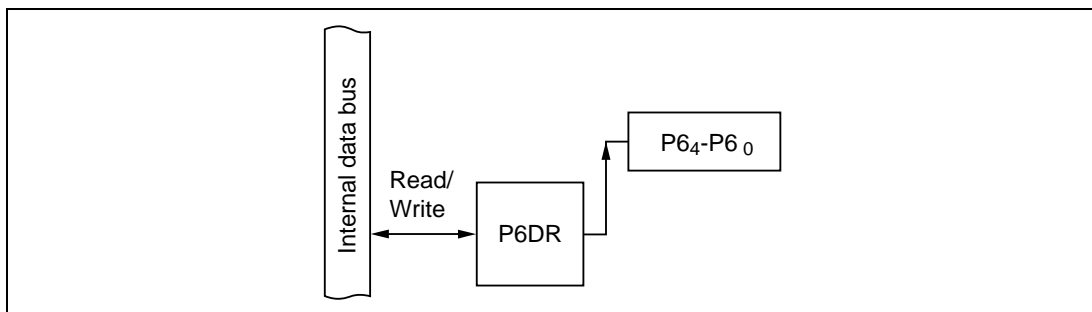

Figure 10-37 Output Port (Modes 1 to 7)
(2) Output Port (Modes 1 to 7): Figure 10-37 shows a block diagram illustrating the general-purpose output function. Table 10-28 indicates register read/write data. The value written in the port 6 data register (P6DR) is output at the pin. When read, P6DR returns the value written in P6DR.